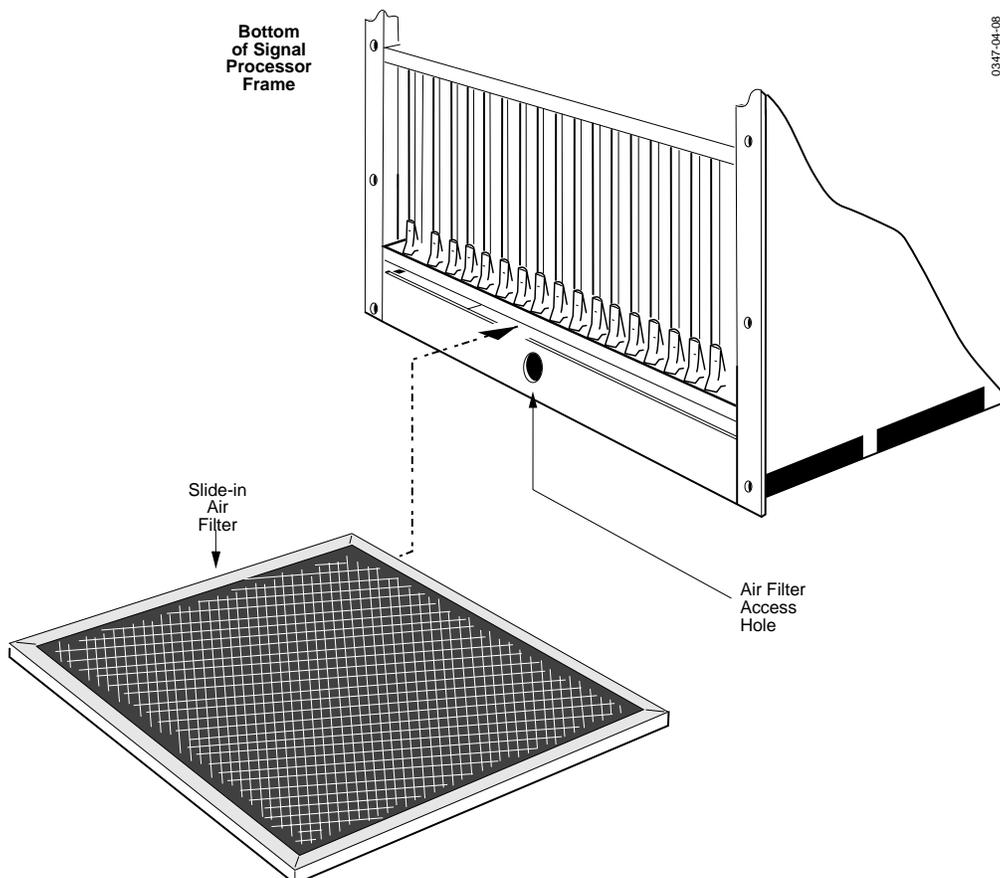

Figure 4-20. Signal Processor, Air Filter Removal.
1. Refer to Figure 4-20. Release the quarter turn captive screws on the front door of the Signal Processor frame and open the door.